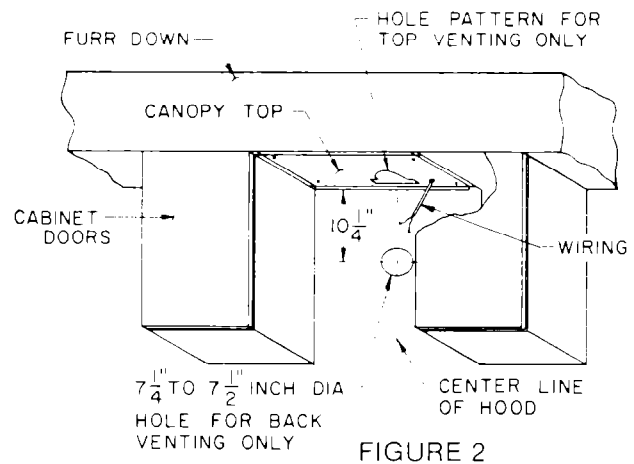

FIGURE 2
2. FOR TOP VENTING:(Figures 2, 7 & 8)
FOR WALL VENTING: (Figures 2 & 9) Establish center line for the hole pattern by measuring half the width of the canopy and 10 $\frac{1}{4}$ " from the top of the canopy. Make a 7 $\frac{1}{4}$ " diameter hole through the wall. Mark and cut hole for wiring. Flanged hole is provided in canopy top for wiring entrance.
FOR WALL VENTING: Establish the center for the back vent hole by measuring half the width of the hood and down 10-1/4" from canopy top. See Figures 2 and 9.